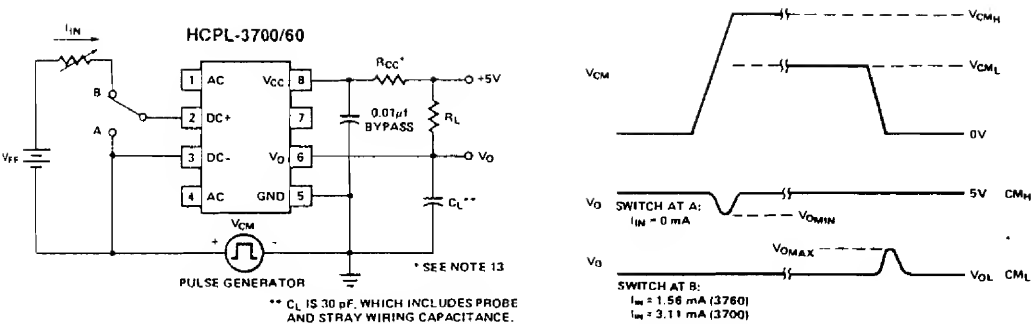

Figure 10. Test Circuit for Common Mode Transient Immunity and Typical Waveforms.
12. Common mode transient immunity in Logic High level is the maximum tolerable (positive) $dV_{CM/MI}$ on the leading edge of the common mode pulse, V_{CM} , to insure that the output will remain in a Logic High state (i.e., $V_O > 2.0\text{ V}$). Common mode transient immunity in Logic Low level is the maximum tolerable (negative) $dV_{CM/MI}$ on the trailing edge of the common mode pulse signal, V_{CM} , to insure that the output will remain in a Logic Low state (i.e., $V_O < 0.8\text{ V}$). See Figure 10.